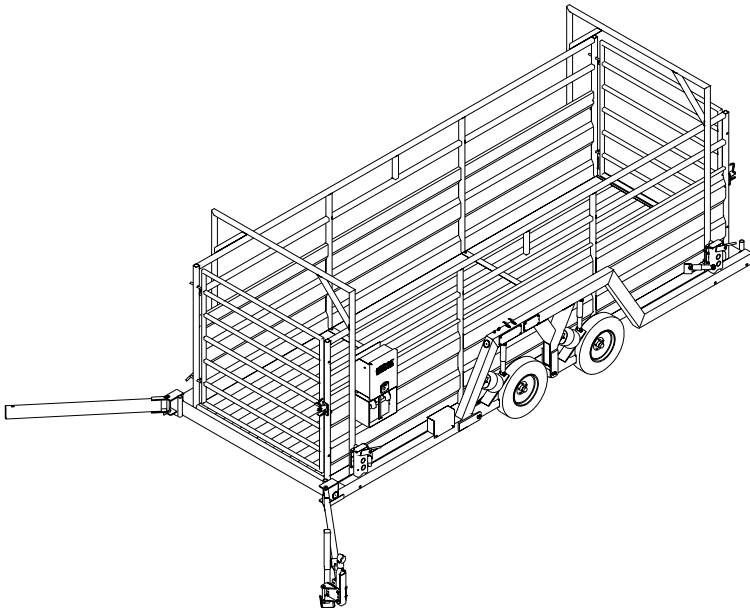

Figure 9 – Trailer and Scale in Weigh Mode
9. Unpin the hitch and swing both hitch halves clear (see Figure 9). **NOTE:** The hitch sections can be removed if required. To remove the hitch, remove the pins from the trailer end of the hitch arms, and pull all wiring through the driver's hitch tube.